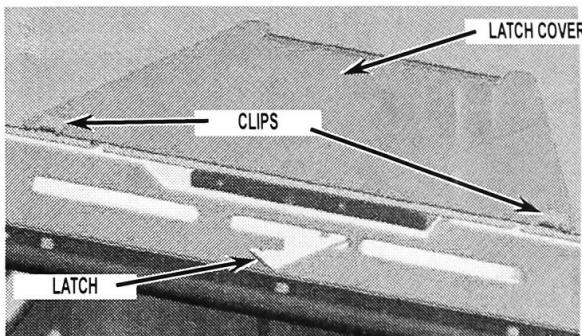

Figure 3
7. Remove (2) screws that secure door latch and remove latch from oven.
8. Install new door latch and secure with (2) screws.
9. Secure second access flap back in place with (2) screws. Be sure that the flap lays flat and that there are no gaps around the flap.
10. Use Latch Cover included with new latch to close opening where break-off flap was. Position as shown in *Figure 3*.
11. Secure Latch cover with clips included with new latch. Locate clips in notch as shown in *Figure 3 and 4*. Be sure there are no gaps around the cover.